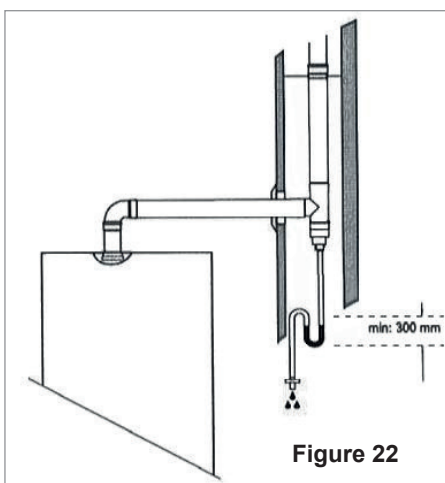

Figure 22
- In case of a vertical flue pipe installation, a condensate trap is fitted at the base of the flue installation and connected into drainage system (see Figure 22).